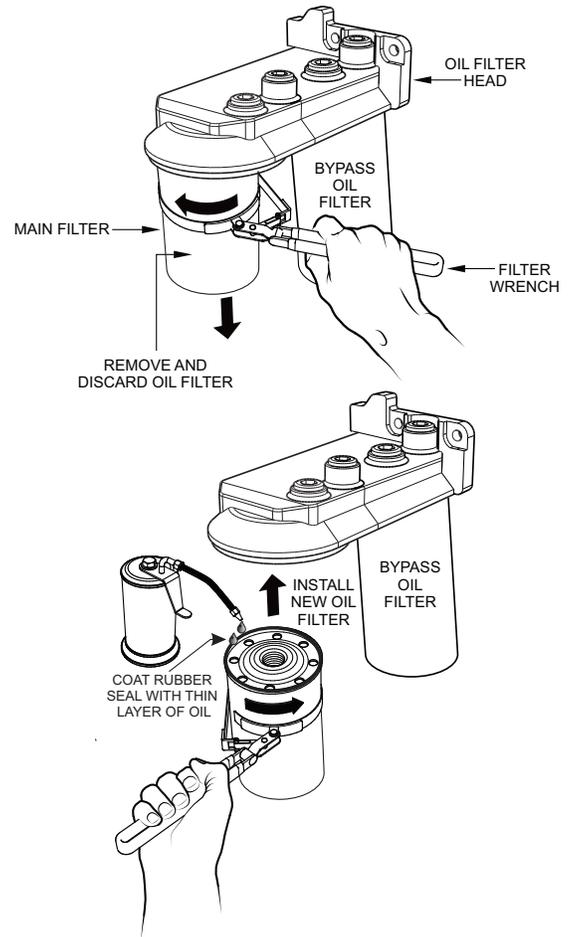

Figure 67. Engine Oil Filter Replacement
1. Clean the area around the **oil filter head** (Figure 67).
2. Using an **oil filter wrench**, remove the **engine oil filter** (Figure 67).
3. Coat the rubber seal (gasket) surface of the new oil filter with clean 15W-40 engine oil (Figure 67).